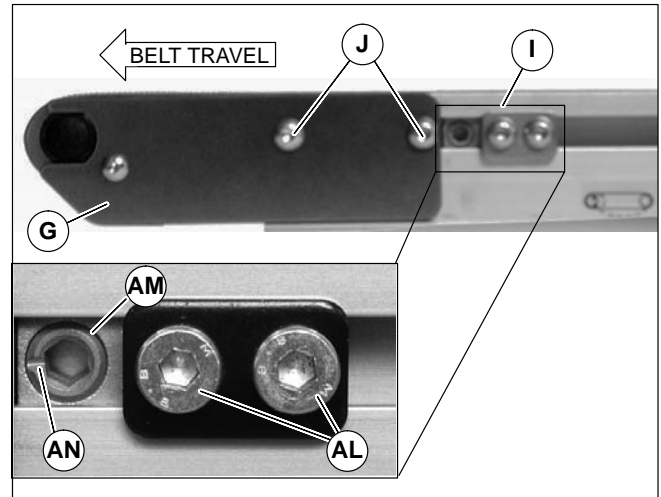

Figure 16
6. While holding pinion (AJ) in tensioned position, tighten cover plate screws (J) on both sides of conveyor. Torque screws to 18 in/lb (2 Nm).
7. Position belt tracking cam against the slide bar while making sure groove is correctly oriented. See Figure 16, below.
Non V-guided belt conveyors are equipped with belt tracking cam assemblies (I of Figure 16) for belt tracking adjustment.
1. Ensure tail cover plate screws (J of Figure 16) on both sides of conveyor are tight.
2. On both sides of conveyor, loosen two cam fastening screws (AL). Adjust cams (AM) until indicator slots (AN) are horizontal and facing end of conveyor. Then slide cam assemblies against head plates (G) and re-tighten cam fastening screws (AL) to 60 in-lb (7 Nm).
3. On the side toward which the belt is tracking, loosen head plate fastening screws (J).
4. With conveyor running, use a 5 mm hex-key wrench to rotate tracking cam (AM) in small increments until belt tracks in center of conveyor. Then while holding cam in position, tighten head plate fastening screws (J) to 60 in-lb (7 Nm).